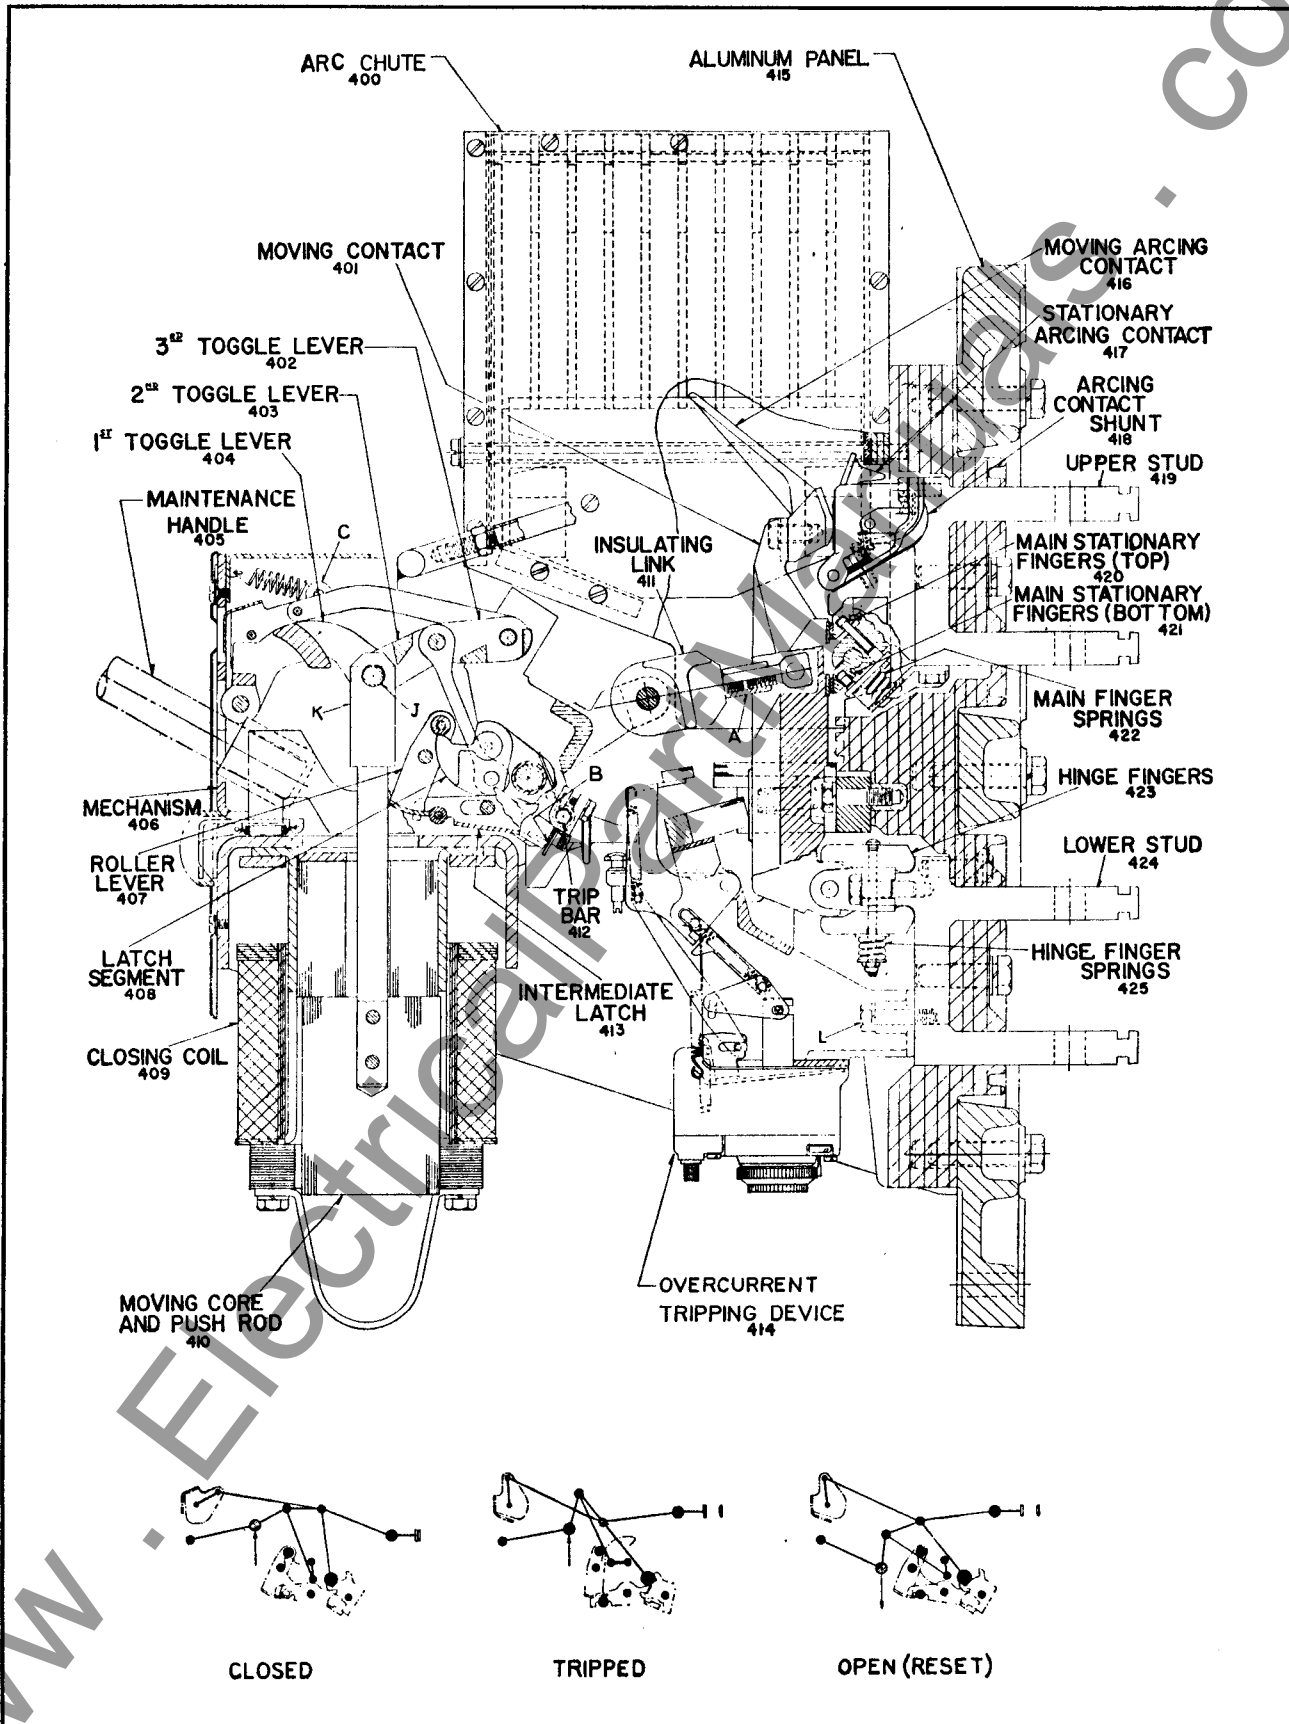

FIG. 3. Cross-Sectional View of Air Circuit Breaker
7. Before assembling mechanism check sliding surfaces of two latches shown at "B", Fig. 3. These surfaces must be clean, free of burrs, and have not more than .035 inch clearance in the reset position.